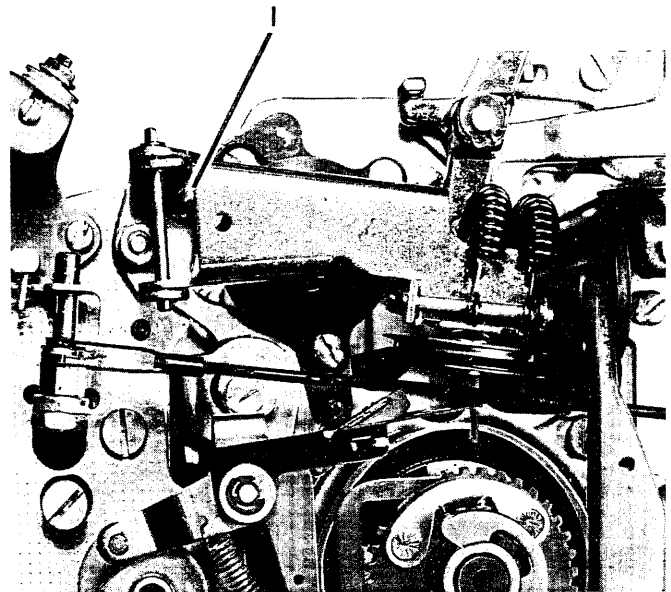

FIGURE 54. Carrier and Rocker Removal
10. Remove transport spring bracket screw (#1, Figure 54) (Early printers only)